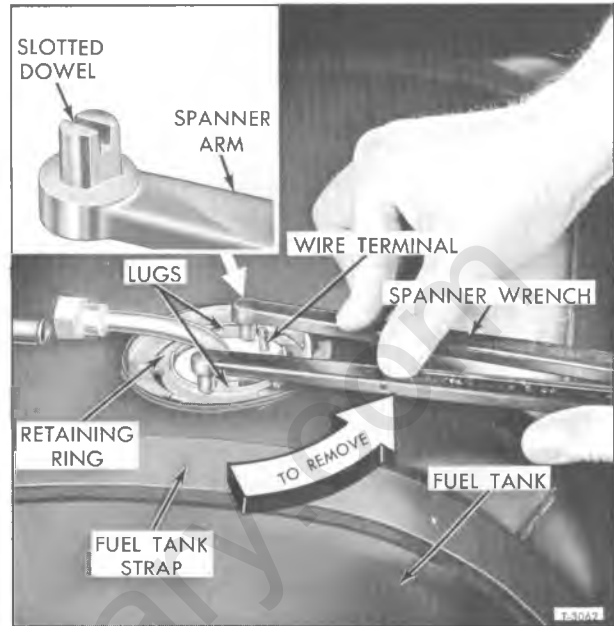

Figure 10—Removing Retainer Ring
Saw one slot in each dowel at end of each spanner arm (see Inset on figure 10). Each slot should be parallel to spanner arm as shown. The saw slots should measure approximately 1/8 inch deep and 1/16 inch wide (width of two hack saw blades). File a flat surface perpendicular to slot at each end of slots. Grind end of spanner arms if additional clearance is needed.
4. Position tool as shown in figure 10 to engage two of the four ring lugs, then turn retaining ring counterclockwise to loosen ring. Lift tank unit out of tank. Remove and inspect neoprene O-ring. Replace O-ring if necessary.
5. Carefully install new tank unit in tank. Use tool (fig. 10) to turn retaining ring clockwise and secure tank unit.